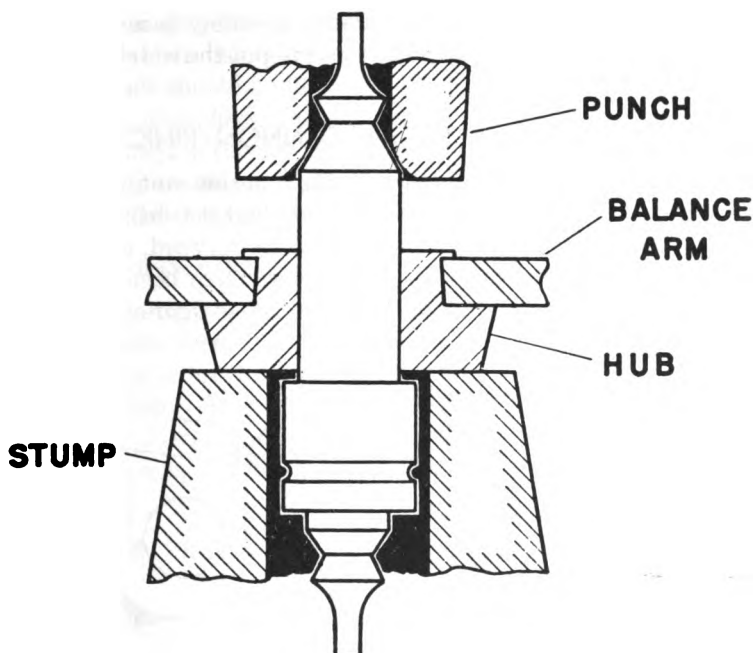

Figure 81.— Removing a friction-fitted staff.
2. *Driving off with staking tool.* — The staff-removal procedure is simpler for a *friction-fitted staff*. The lathe operation is not then required. The staff and arm are placed on a staking stump having a hole slightly larger than the roller shoulder, and a punch with hole large enough to bear on the chamfered portion of the staff (see figure 81) is used to drive the staff off the hub by tapping on it with a pair of tweezers. This is the method used to remove the friction-fitted staffs of Hamilton Comparing Watches.